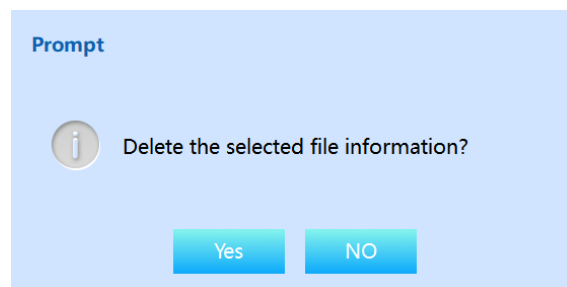

Figure 5-10 Delete current QC data (QC Table)
2. Select "Yes" in the pop-up window, as shown in Figure 5-10.